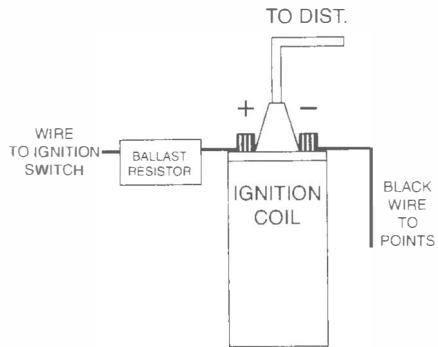

FIGURE 2
5. The **red wire** from the *Ignitor* must be connected to the **positive (+)** side of the coil, or a 12 volt switching power source. The black wire must be connected to the negative (-) side of the coil. (See Figure 2 & 3).
13. For installations that do not use a primary ballast resistor, connect the *Ignitor* red wire to the positive (+) side of the ignition coil. (See Figure 2).